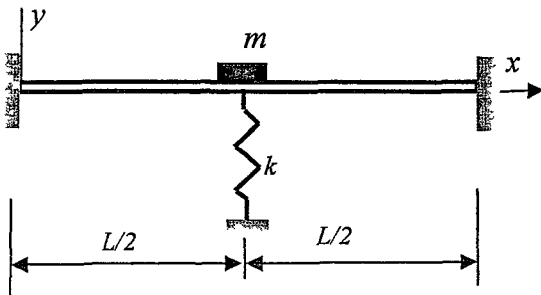

Figure 3
**3 4** Figure 3 shows a beam with both ends fixed the density and the elastic modulus of the beam material are denoted  $\rho$  and  $E$  respectively The moment of inertia of the beam is  $I$  A lumped mass with  $m = \frac{4\rho AL}{35}$  and a massless elastic spring with constant  $k = \frac{12EI}{L^3}$  are attached at the midspan as shown in Figure 3 Using the consistent mass formulation and the matrices shown below calculate the first and the second natural frequencies of the system